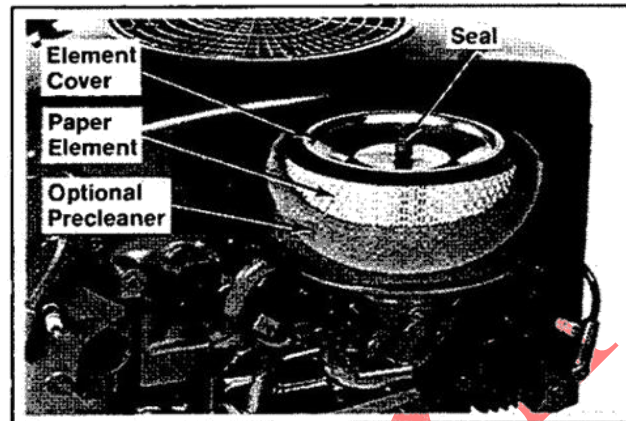

Figure 9-4. Removing Air Cleaner Element.
2. Remove the seal, element cover, paper element, and optional precleaner. Refer to Figure 9-4.